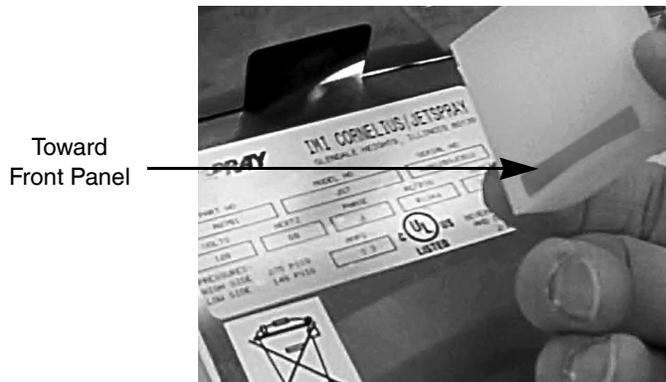

Figure 11.
2. To replace the condensate drain, place the drain against the front panel under the drain hole (opening in side of drain should be toward front panel). Push up until the drain snaps into place (see Figure 11).